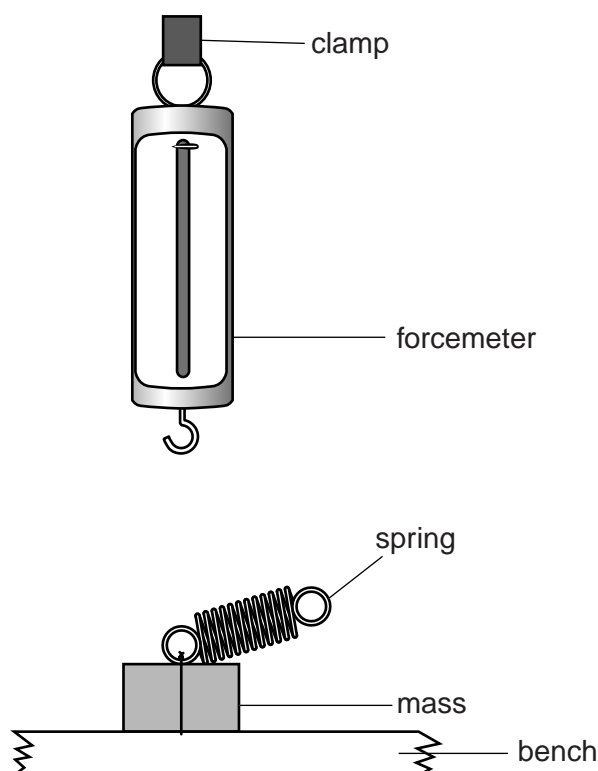

Fig. 1.1
2. The apparatus is to be set up as shown in Fig. 1.1. The forcemeter should be hung on the clamp. Zero the forcemeter before hanging it on the clamp.
Check that the apparatus is set up ready for the next candidate, as shown in Fig 1.1.